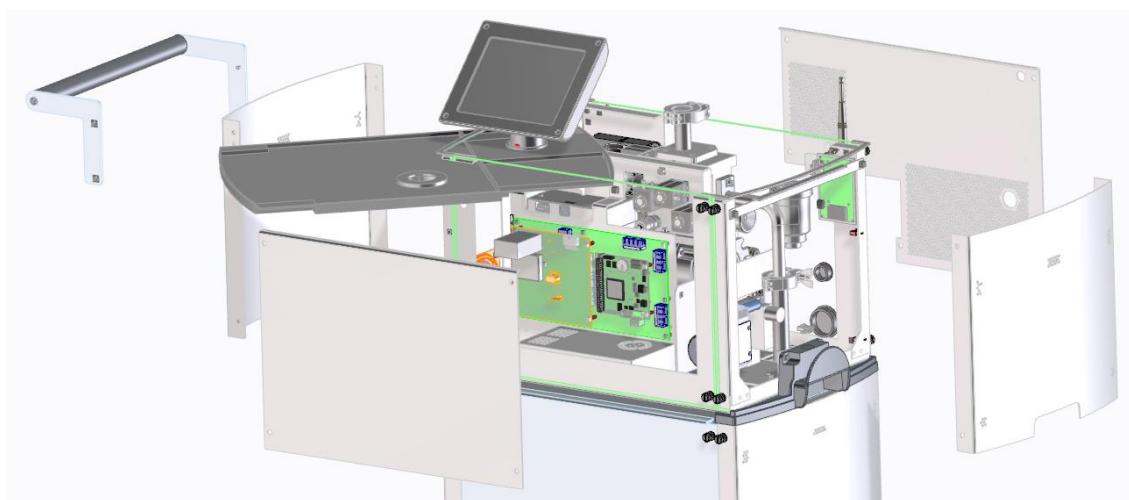

Figure 1: Removal of Covers
3. Using a slotted screw driver, unfasten screws holding each cover (Figure 1: Removal of Covers) and detach each cover. If the unit has the handle option, the handle must be removed to detach the front cover. Before detaching the front face cover, the push handle must be removed using a metric Allen wrench.